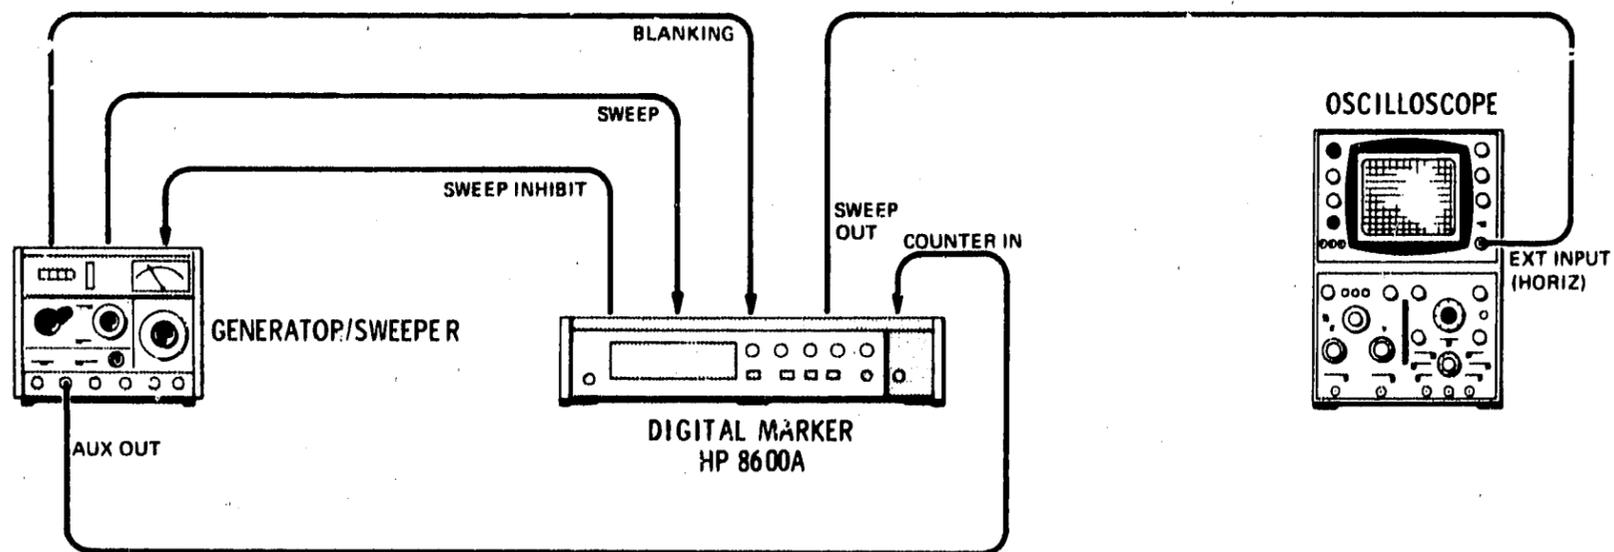

Figure 4-2. Marker Separation Test Setup
1. Connect the equipment as shown in Figure 4-2 and set the controls as follows: